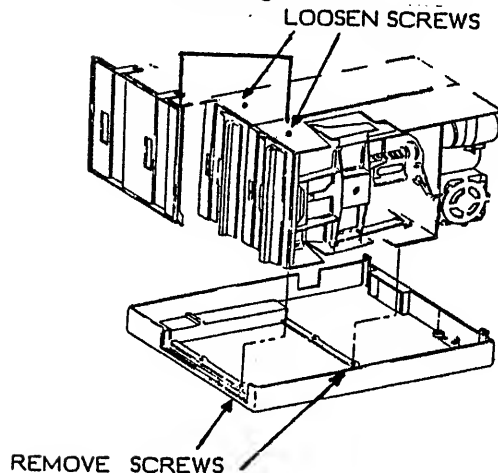

Fig. 3-20 DISK DRIVE REMOVAL
3. Loosen (2) screws holding front bezel in place and remove bezel.(Fig. 3-20)
4. Remove (2) disk drive screws and remove disk drive.(Fig. 3-20)